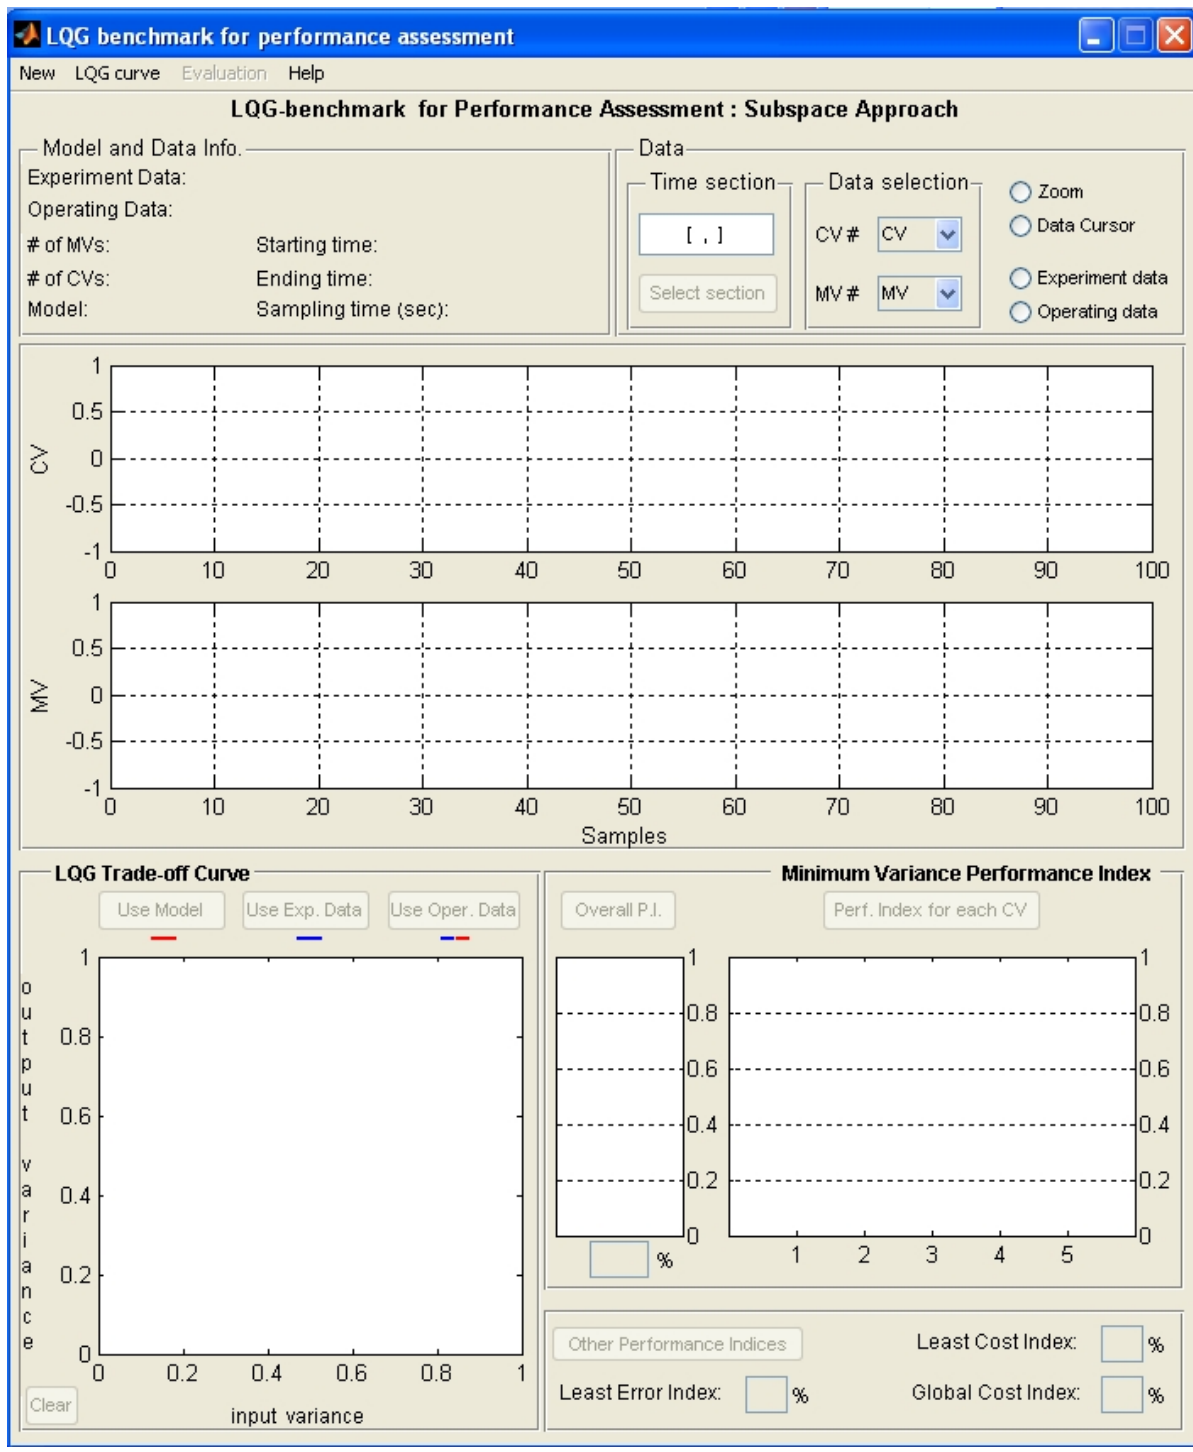

Figure 2: The main GUI for this toolbox
| Figure 2: The main GUI for this toolbox .....                            | 2  |
- 4) Press the **'LQGA'** menu. A new GUI will appear that is shown in Figure 2.